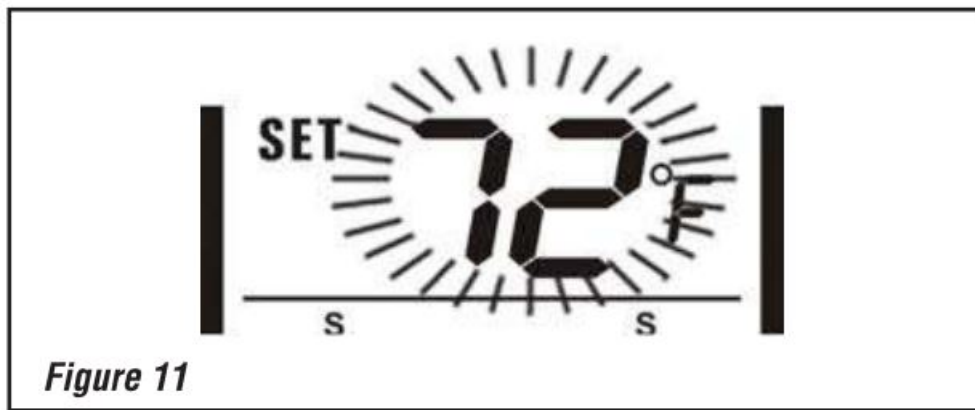

Figure 11
- The set temperature will begin to flash. Use the UP and DOWN touch buttons to select a temperature for P1, then press SET (See Figure 11).